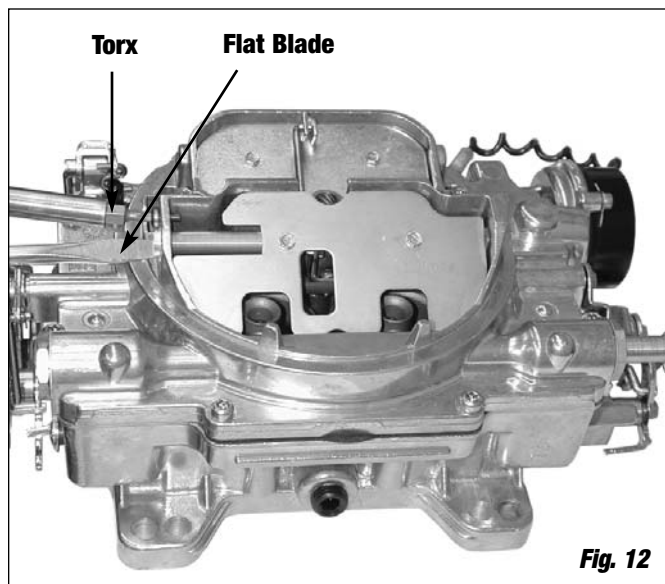

Fig. 12
1. With Torx drive (T15) and flat blade screw driver in place, loosen Torx screw, make sure flat blade is secure to prevent loss of spring pressure (**See Fig 12**).